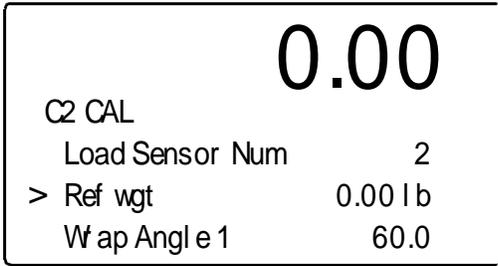

FIG. 2-38 ENTERING THE REFERENCE POINT
Step 10. Press the down arrow button to move the cursor in front of the "Ref Wgt". (See Fig. 2-38)